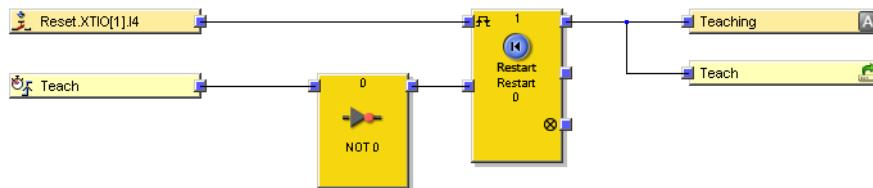

Figure 360: Configuration of the Teach function in the logic editor
- ▶ Within the logic for these stations, connect the input of the Teach pushbutton to the Teach output of the relevant station via a **Restart** function block (see figure 360, page 474).